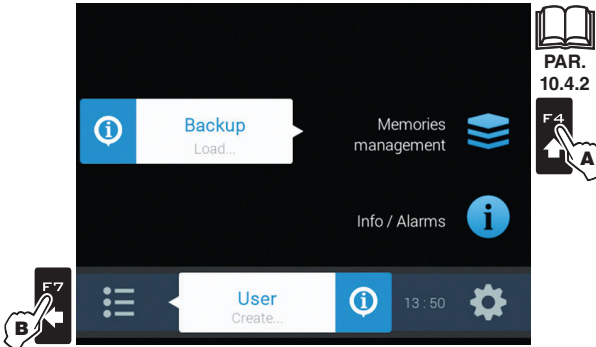
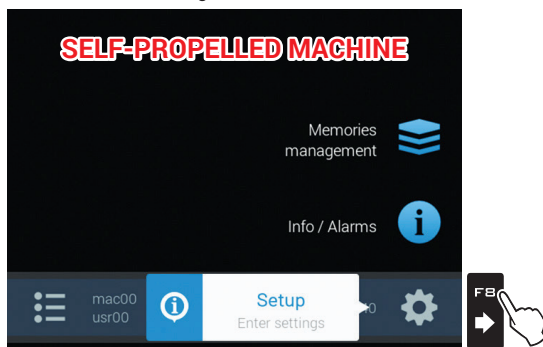
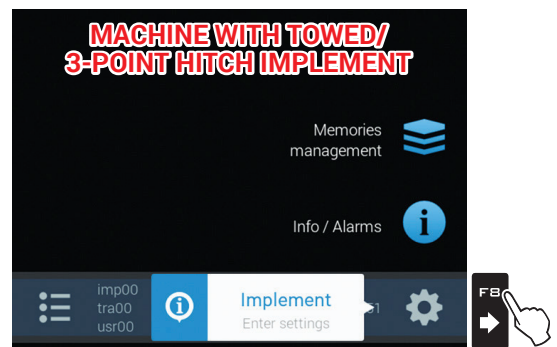

Fig. 13
Fig. 15
Fig. 16
If you have a setup file (Backup), duly stored in a pendrive / SD card, press **F4 (A)** in Fig. 13) and follow the procedure described under par. 10.4.2. IN ANY OTHER CASE, PRESS **F7 (B)**: SAVE USER AND MACHINE CONFIGURATION; START GUIDED SETUP PROCEDURE BY MEANS OF **F8** (Fig. 15 or Fig. 16).